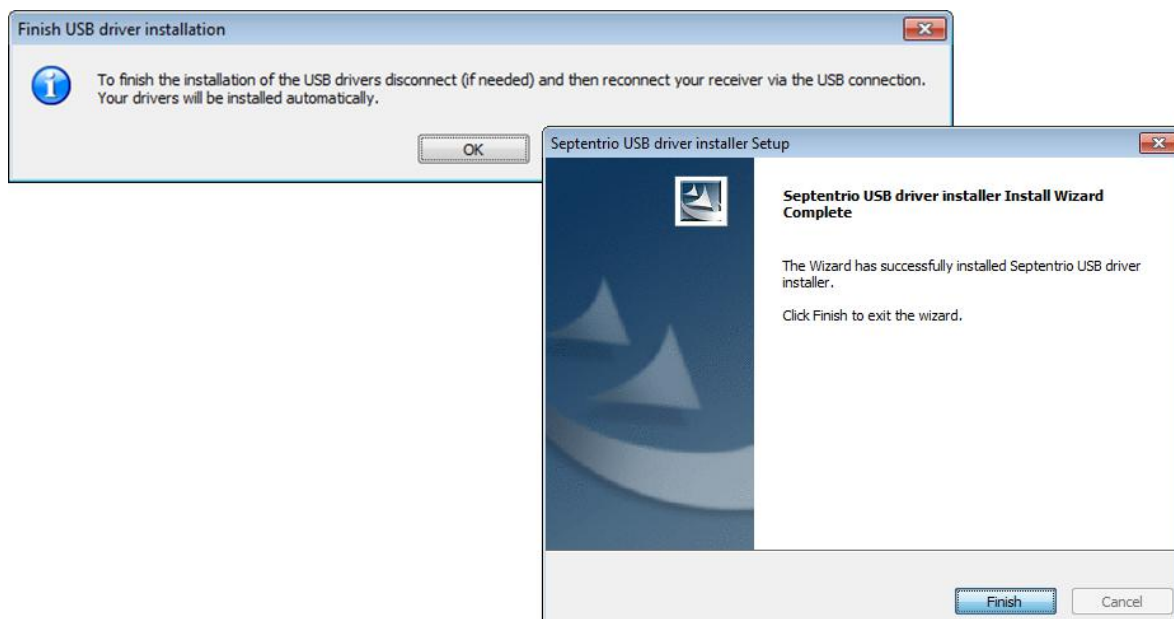

Figure 6-5: Disconnect then reconnect the USB cable to finalise the driver installation
- For the final stage of the driver installation, you will be prompted to disconnect then reconnect the USB cable from your pc as shown in Figure 6-5.